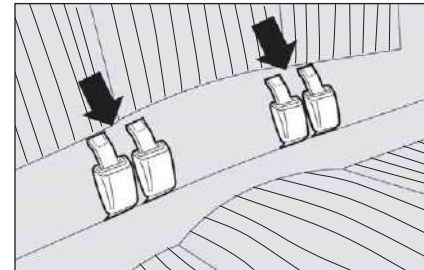

fig. 104
- fasten the buckles to the tabs (shown by the arrows) on the backrest **fig. 104**;